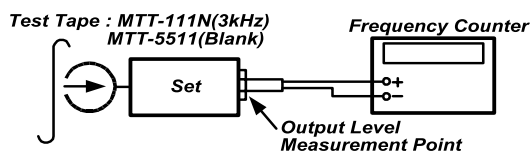

FIG. 1 : Tape Speed & Record Bias Oscillator Frequency Adjust Circuit
13.Outdoor Antenna Grounding - If an outside antenna is connected to the receiver be sure the antenna system is grounded so as to provide some protection against voltage surges and built-up static charges. Article 810 of the National Electrical Code, ANSI/NFPA 70, provides information with regard to proper grounding of the mast and supporting structure, grounding of the lead-in wire to an antenna-discharge unit, size of grounding conductors,location of antenna-discharge unit, connection to grounding electrodes and requirements for the grounding electrode. See Figure 1.